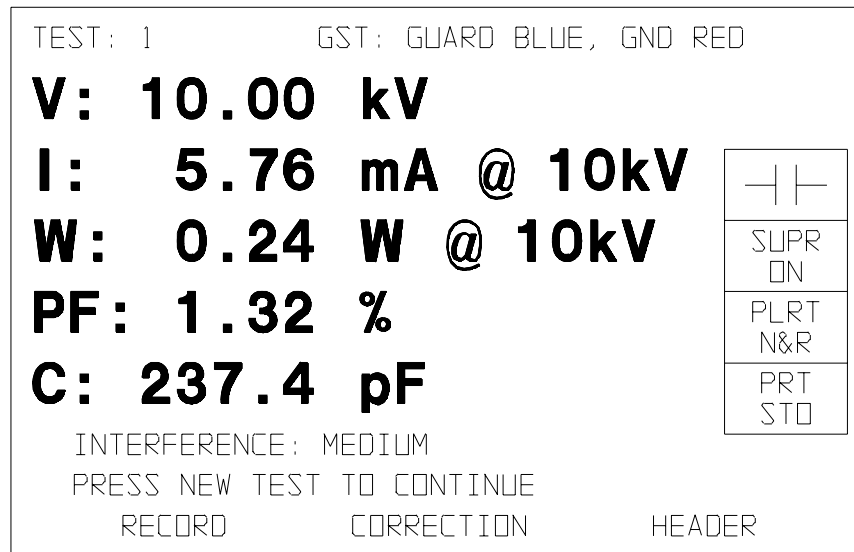
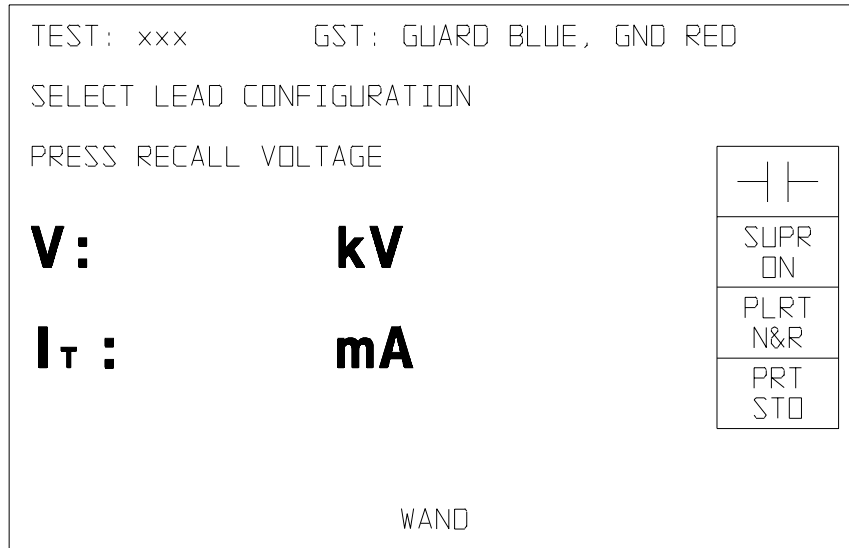

Figure 17: Typical Test Results Screen
Figure 18: "New Test" Test Screen
Typical Test Results Screen (Fig. 17)
When the test is completed, the high voltage is removed from the specimen and the test results are displayed as shown in Figure 17, including test voltage, calculated watts, power factor, and capacitance. To view 10 kV and 2.5 kV equivalents of current and watts, press the CORRECTION button.
New Test Screen (Fig. 18)
To continue testing, select the “PRESS NEW TEST TO CONTINUE” message from the screen shown in Figure 17. If either of the safety interlocks have been released (opened), pressing the NEW TEST button will bring up the first test screen (Fig. 11). If the safety interlocks have been kept closed, the following screen will appear (Fig. 18)
12. Press the MEASURE button when ready to make a measurement. This will light the red operation lamp (to the right of the MEASURE button) and initiate a measurement test. When the test is completed, test voltage is removed from the specimen and test results are displayed on the screen (see Fig. 17 for typical test screen). The red HIGH VOLTAGE ON lamp will remain lit, indicating that the high voltage circuit is still enabled. The red operation lamp will be extinguished.
14. The operator may now choose to conduct another test. If either of the safety interlocks have been released (opened), pressing the NEW TEST button will bring up the first test screen (Fig. 11). In this case, return to step 5 and repeat the procedure from there. If the interlocks have been kept closed, pressing the NEW TEST button will bring up the “new test” test screen (Fig. 18). If this is the case, the operator may then select another lead configuration by pressing the appropriate LOW VOLTAGE LEAD CONFIGURATION button (the new lead configuration will appear on the top line of the screen).